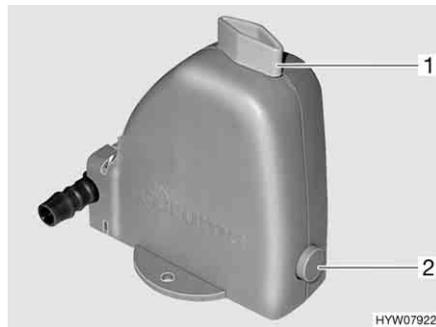

Fig. 213 Safety/drainage valve of the boiler
The boiler is equipped with a safety/drainage valve (Fig. 213). The safety/drainage valve prevents water in the boiler from freezing, when there is frost and the heater is not switched on.
- Close the safety/drainage valve. Turn the knob (Fig. 213,1) perpendicular to the safety/drainage valve and push the push button (Fig. 213,2) in.
- Open the safety/drainage valve. To do this turn the knob (Fig. 213,1) parallel to the safety/drainage valve. The push button (Fig. 213,2) jumps out. The boiler is drained to the outside by the safety/drainage valve.